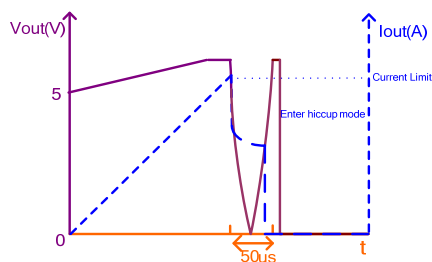

Figure 8: Over-Current Limit for CR Load
After the soft start finishes, if the USB output voltage is lower than 3.5V and lasts longer than 50μs, the MP5408M enters hiccup without having to wait 5ms (see Figure 8). This can prevent abnormal thermal rise during the constant resistor (CR) load over-current case.